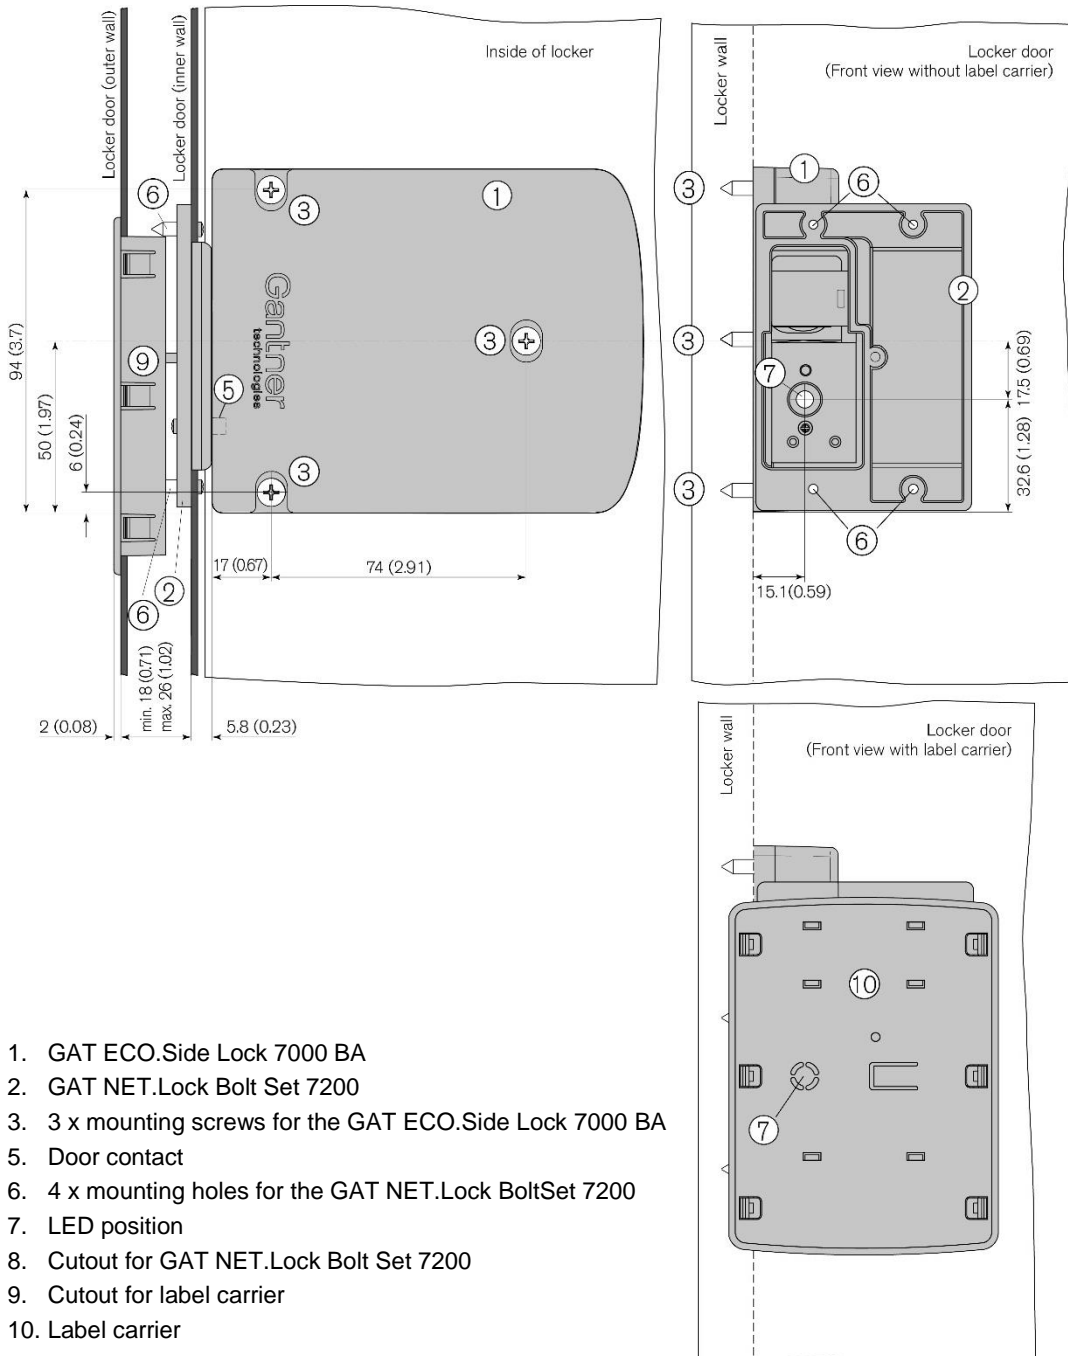

Figure 3.11 - Installation in a locker with metallic, right-hinged door (dimensions in mm – inches shown in brackets)
- The thickness of the locker door must be between 18 and 26 mm (0.71'' and 1.02''). See Figure 3.11.
- When the door is pressed shut, ensure there is no gap between the bolt set (2) and the front of the GAT ECO.Side Lock 7000 BA. Ideally the bolt set should touch the front of the lock (see measurement in Figure 3.11).
- ▶ Drill 3 holes (3 in Figure 3.11) for the GAT ECO.Side Lock 7000 into the locker wall inner side according to the information in section "3.11.2 Installation Requirements for the GAT ECO.Side Lock 7000 BA and Metallic Doors" and the measurements in Figure 3.11.
- ▶ Mount the GAT ECO.Side Lock 7000 BA with 3 screws (3) on the inside locker wall.